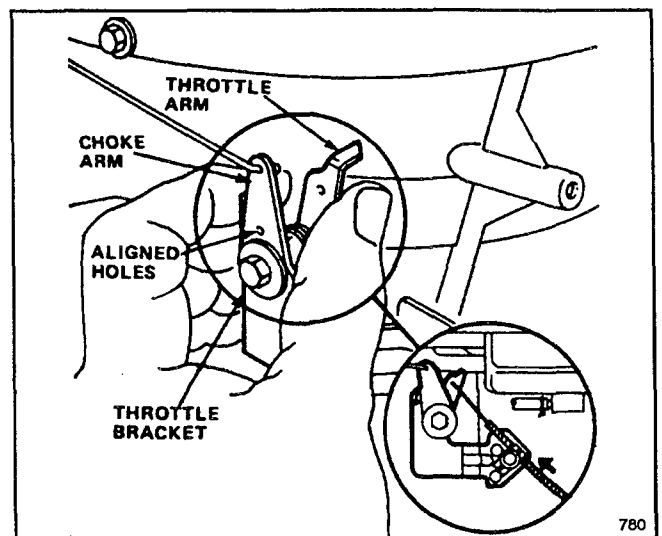

Figure 20
3. Loosen cable clamp screw until throttle cable slides (Fig. 20). Align holes in choke arm and throttle bracket. A small dia. pin may be inserted into aligned holes to hold adjustment. Push throttle cable until throttle arm makes contact with choke arm. Tighten cable clamp. Remove pin if used.